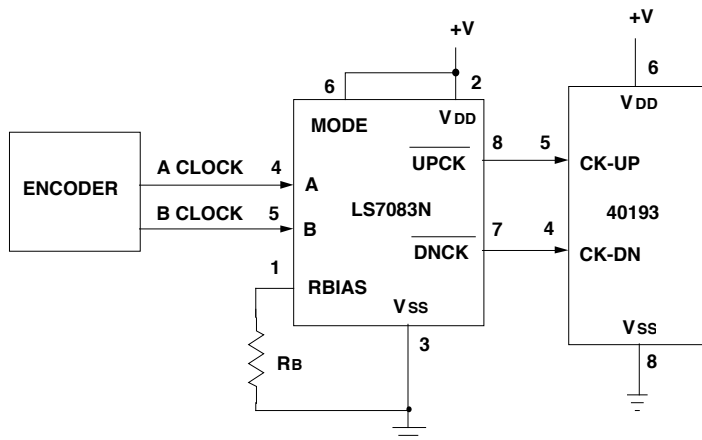
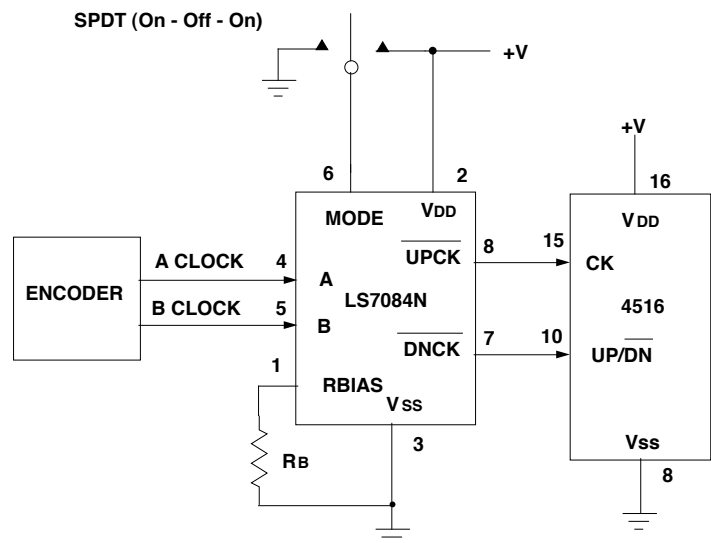

FIGURE 6A. TYPICAL APPLICATION FOR LS7083N in x4 MODE
FIGURE 6B*. TYPICAL APPLICATION FOR LS7084N in x2 MODE
- Interface incremental encoders to Up / Down Counters (See Figure 6A and Figure 6B)